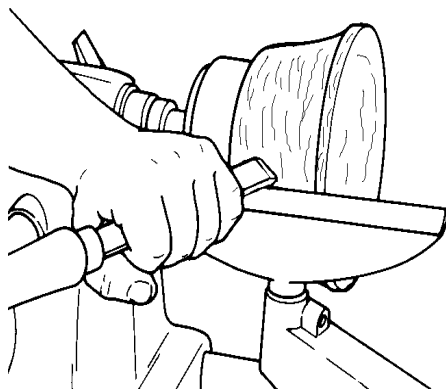

Figure C-52
3. Shaping the outside -- Make the beads and coves in the same manner as for spindle shaping. See Figure C-52. If the wood grain is perpendicular to the axis of rotation, do not shear.